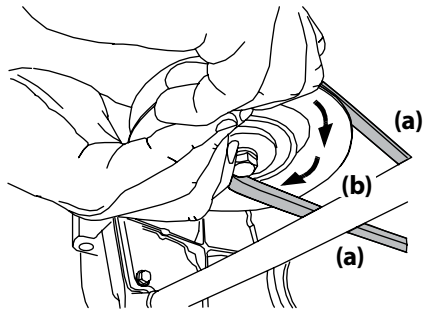

Figure 4-15
- d. While still holding the PTO belt (a) downward, continue turning the PTO pulley (b) until the PTO belt (a) is rolled off the PTO pulley (b). Refer to Figure 4-15.
11. Pull the right side of the PTO belt rearward and place the narrow V-side of the PTO belt into the PTO pulley. See Figure 4-15.
12. While holding the PTO belt and PTO pulley together, rotate the PTO pulley to the left (See Figure 4-15). Continue holding and rotating the PTO pulley and PTO belt until the PTO belt is fully rolled into the PTO pulley.